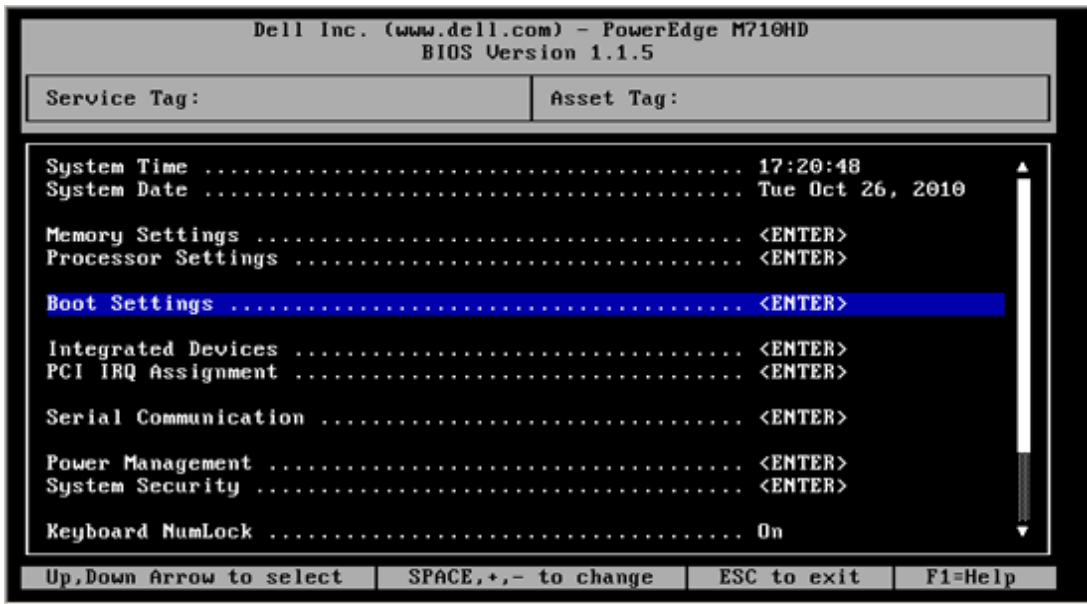

Figure 2-3. BIOS: Boot Settings
11. Select **Boot Settings**, and then press the ENTER key (Figure 2-3).